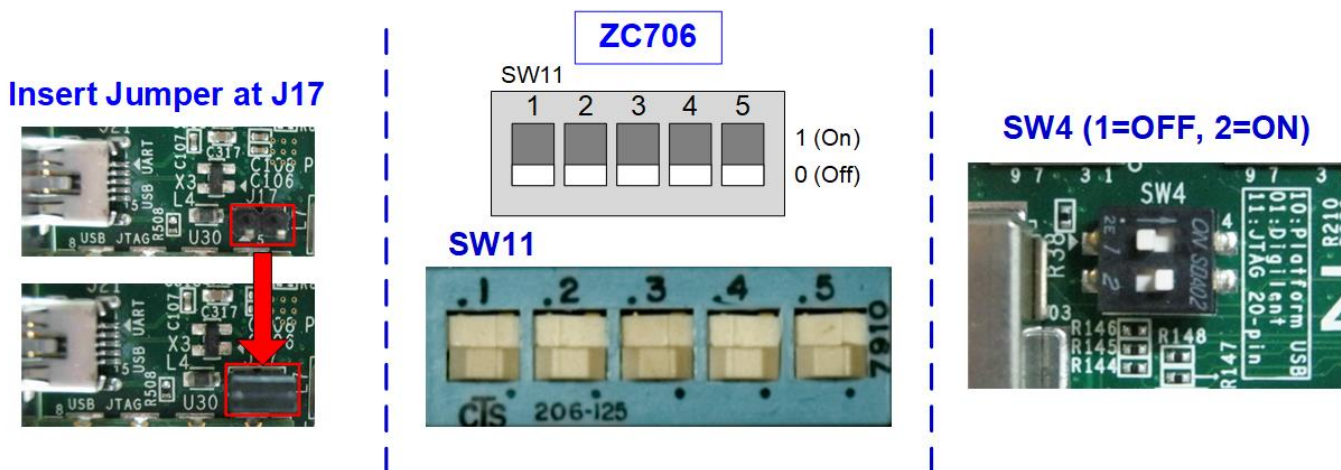

Figure 2-8 ZC706 board setting
- a) The board setting on ZC706 board is shown in Figure 2-8.